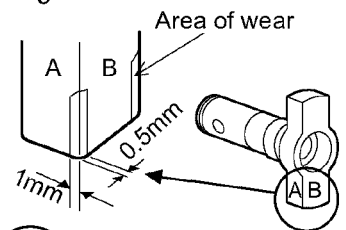

Fig 2
4. Place the fixation cover over the motor mounting plate and insert it while rotating, taking care to align the position of the fixation cover with the motor mounting plate as shown in Figure 2.